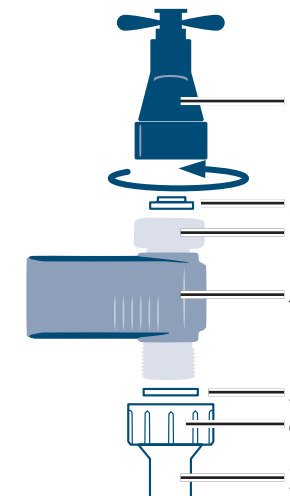

Figure 4 Connecting the solenoid valve
7. Screw the solenoid valve (item 4, Figure 4) incl. pre-filter (item 2, Figure 4) with the union nut (item 3, Figure 4) to the water supply (item 1, Figure 4).
8. Screw the hose of the device (item 7, Figure 4) to the other side of the solenoid valve using the union nut (item 6, Figure 4) and a suitable seal (item 5, Figure 4).